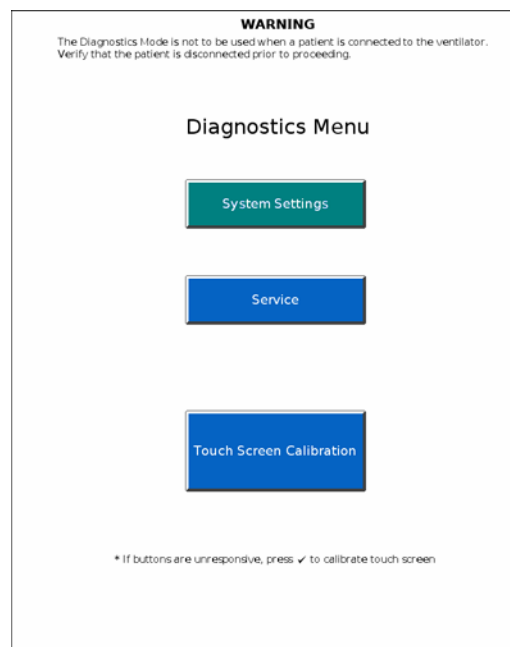

Figure 4-1: Diagnostics Menu
2. Enter Diagnostic mode by pressing and holding the nav-ring **Enter** button and turn on the ventilator by pressing the **On/Shutdown** button on the user interface. Within 5 seconds, press the nav-ring **Enter** button again to enter Diagnostic mode. The Diagnostics Menu appears (Figure 4-1).